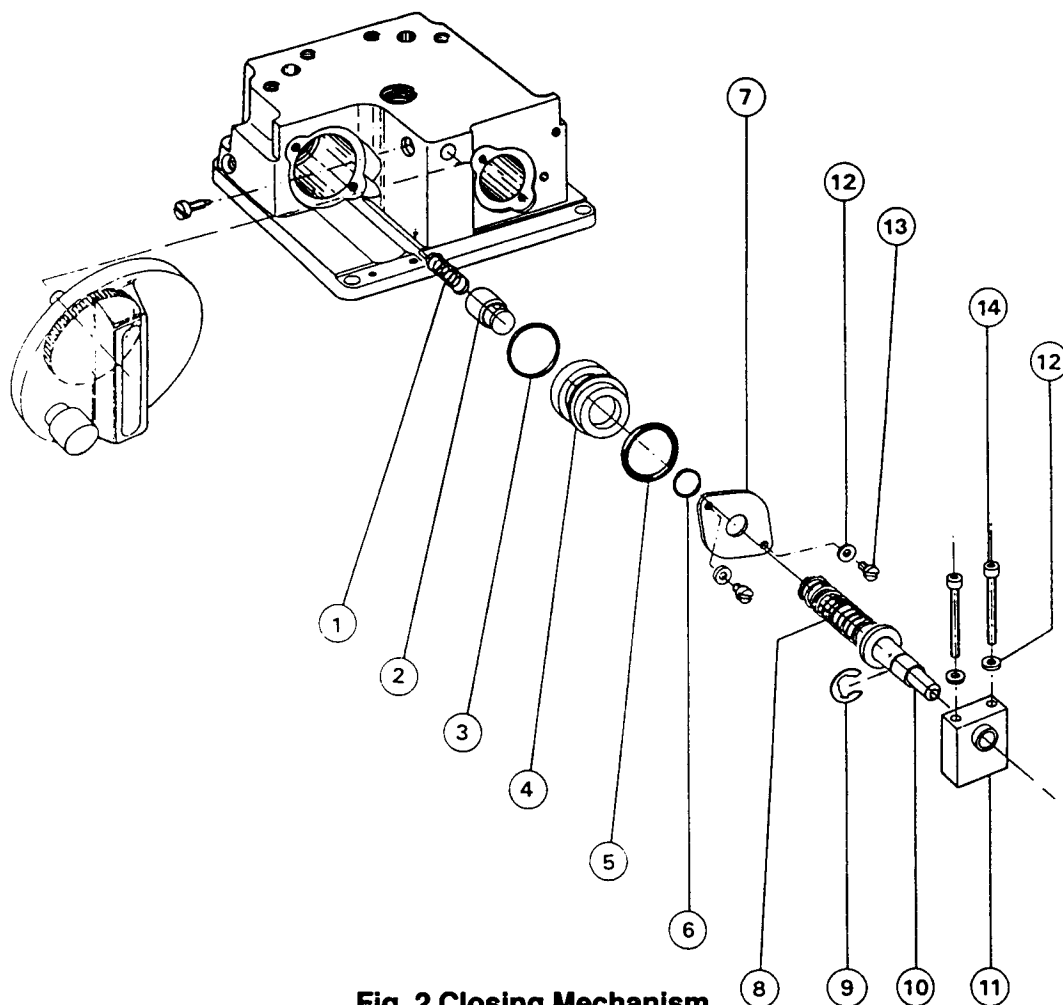
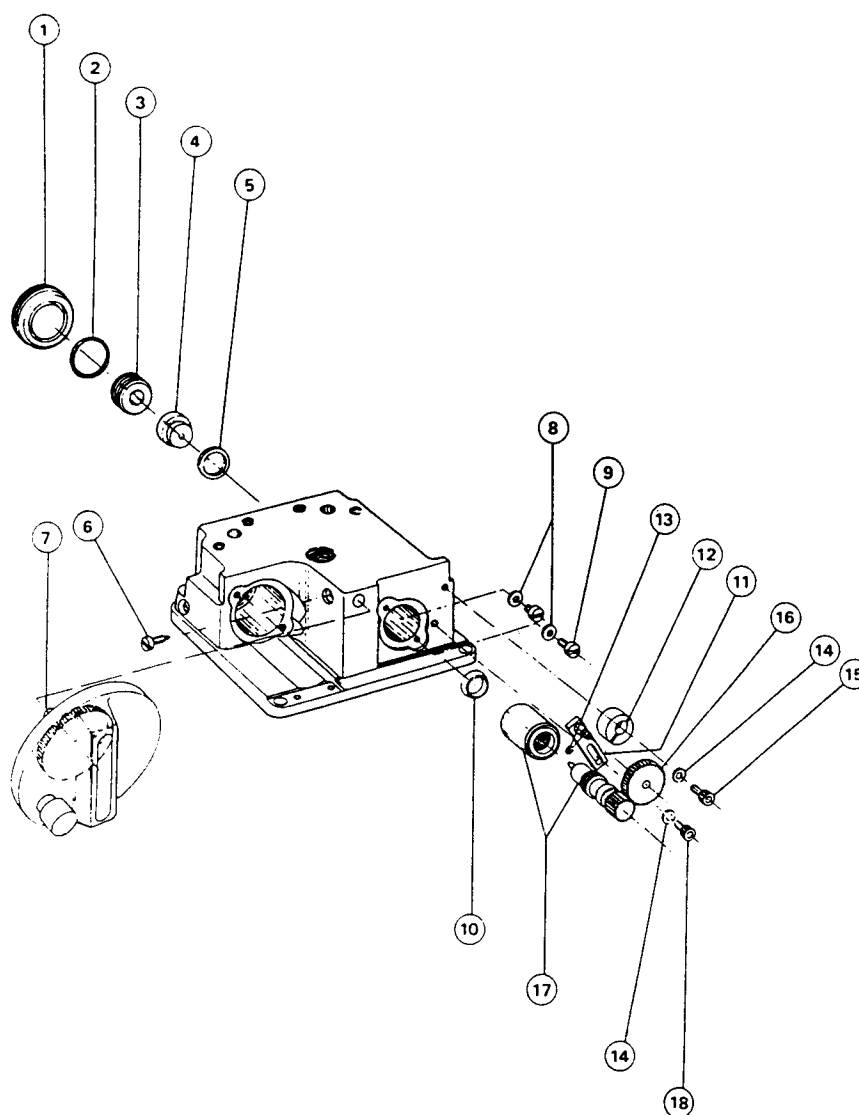

Fig. 2 Closing Mechanism
Fig. 4 Vapour Control Valve
4.2 Closing Mechanism (Fig. 2)
4.4 Vapour Control Valve (Fig. 4)
4.5 Control Knob Assembly (Fig. 2 and Fig. 4)
5.4 Closing Mechanism (Fig. 2)
Leaks detected from the entry coil during operation 5 (Chart S3) indicate that the closing mechanism valve is not sealing. Before dismantling the unit check that it is not being held open by a fault in the control knob, by removing the control knob (Fig. 4, Item 7) completely from the body. This is affected by removing screw (Fig. 4, Item 6). Retest to see if the mechanism is now sealed. If so, the fault lies in the control knob setting. The position of the control knob onto the control shaft is critical as the rear face influences the opening and closing action of the closing mechanism valve, see sub-section 6.6.11. If the leak persists, see sub-section 6.6.7.
5.7 Concentration Control (Fig. 4)